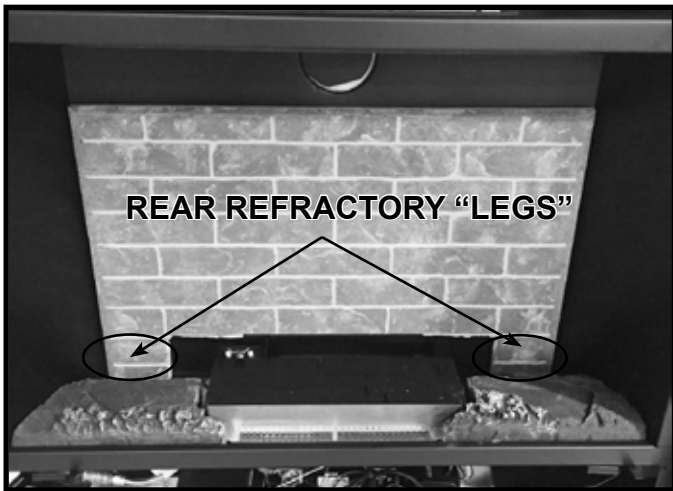

Figure 11.2 Install Rear Refractory Piece
**Note:** The SL-3X-IFT and SL-5X-IFT rear brick refractory will be a rectangular shape without “legs.” See Figure 11.2.